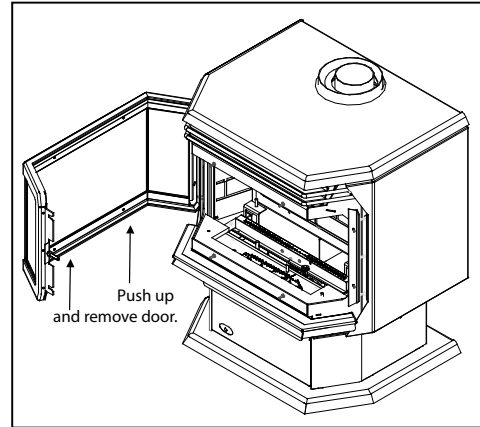

Figure 19: Removing the Door.
3. If the door must be removed open the door and lift the door pins out of the hinges (see figure 19).